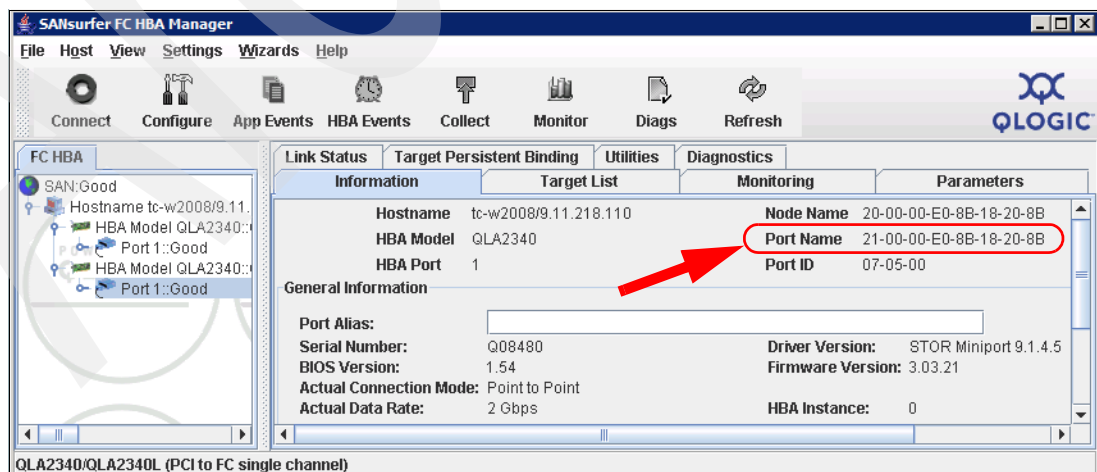

Figure 4-70 Displaying WWPN with SANsurfer
- In the next window, you need the attachment protocol to specify the host interface type, FC or iSCSI, and the HBA host port information (host port identifier and alias). Remember that the HBA host port identifier is the world-wide port name of the particular HBA. To make sure that you know what your server's HBA WWPN is, use the SANsurfer management tool (which is discussed in 7.11.3, "Qlogic HBAs and SANsurfer (Windows/Linux)" on page 443), as shown in Figure 4-70.